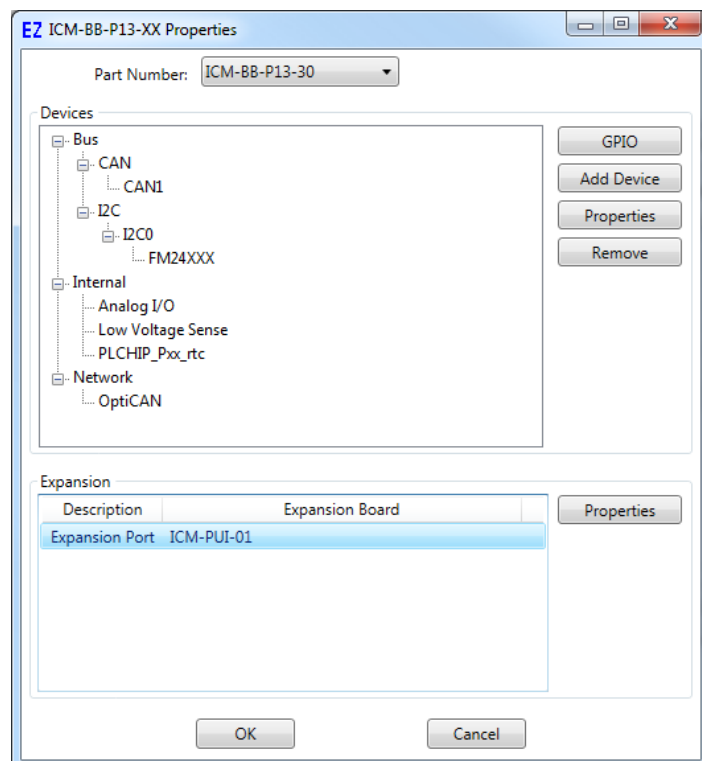

Figure 2-5 - Installed Expander
6. Click **OK**. This will install the ICM-PUI-01 expander and close the *Expansion Port Properties* window. the ICM-BB-P13-XX Properties window should now list the ICM-PUI-01 as an installed expander (Expansion Pane at bottom). Refer to Figure 2-5.